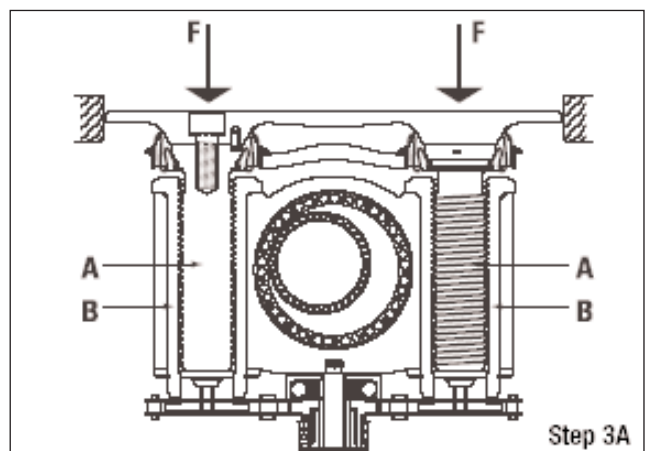

Fig 1.8
- h) Clamping force generates friction in the screw threads between the adjuster sleeves B and pistons A, and friction under the flanged head of the adjuster sleeves (Fig. 1.8).